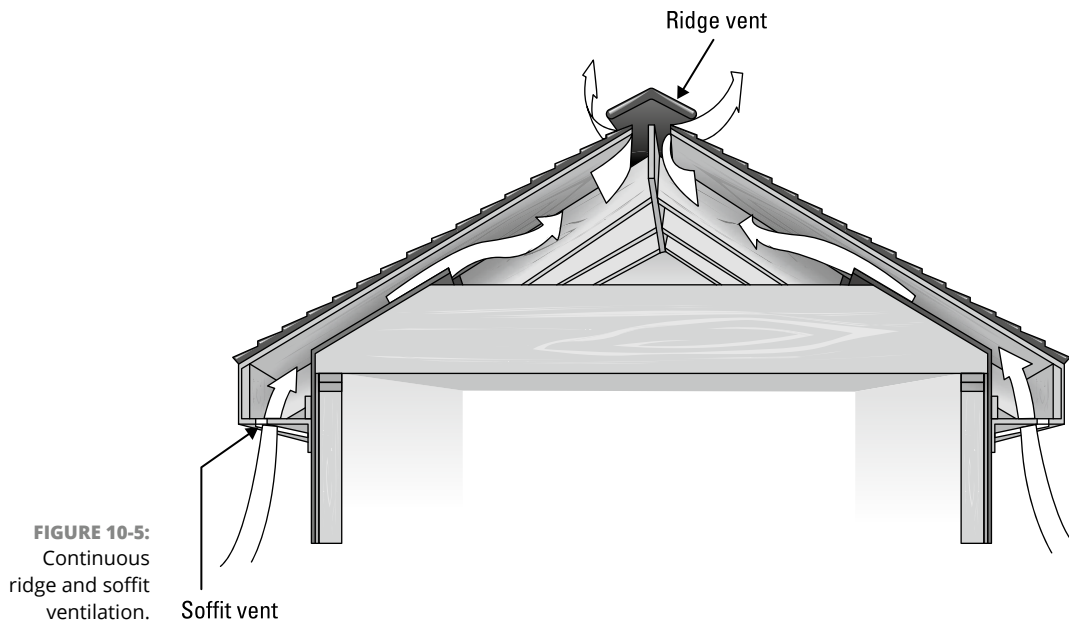

FIGURE 10-5:
- » **Attic.** In the attic, passive ventilation creates an upward flow of air. Warm air rises and goes out through vent(s) near to, or at the peak of, the roof, drawing cool air through vents in the eaves or soffits. I recommend continuous roof and soffit ventilation. In this model, air enters at the soffits (the area below gutters and underneath a roof's overhang) and exhausts at the ridge. (See Figure 10-5.)